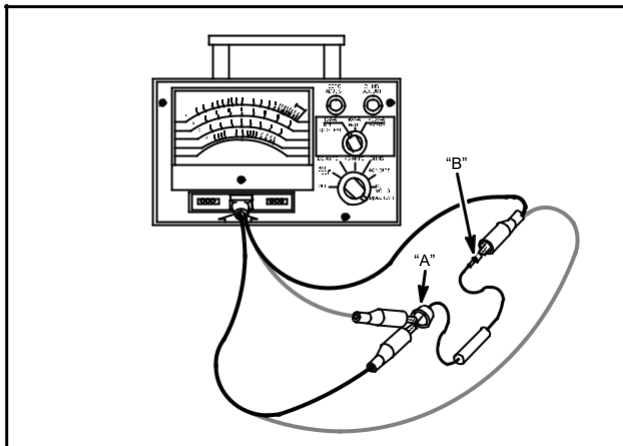

Fig. 752 – TESTING ISOLATION DIODE
4. Pierce WHITE wire with a pin and attach RED test lead clip to point "A" as shown in Fig. 752.